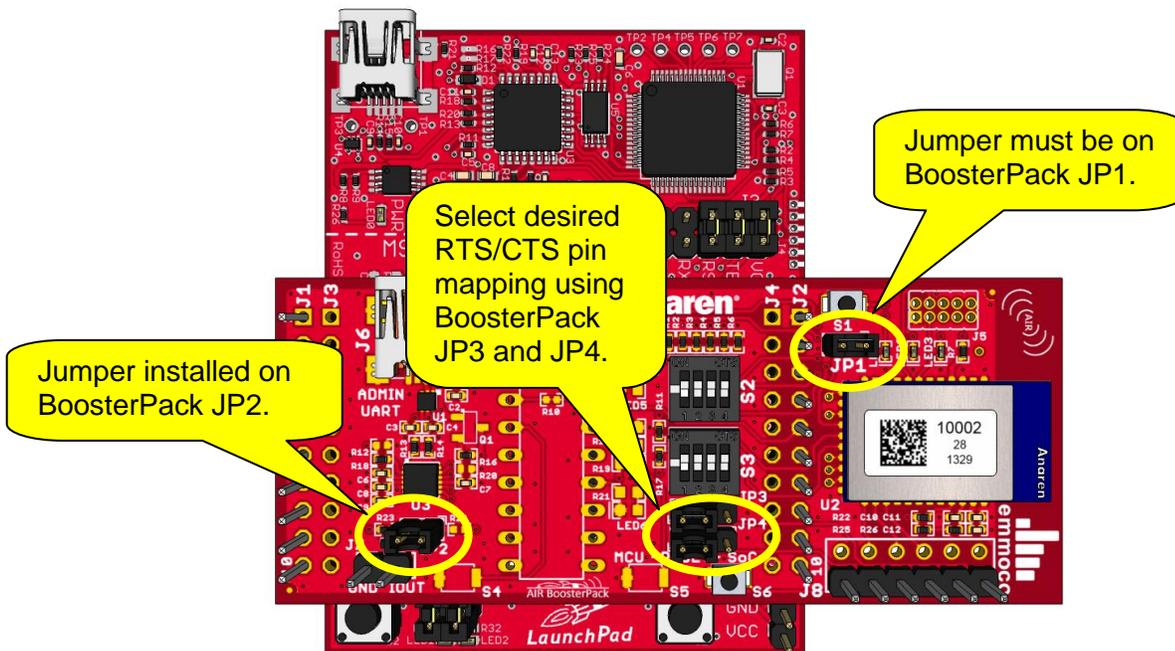

Figure 4 – AIR B-Smart BoosterPack Installed On MSP-EXP430G2 LaunchPad
- 1) Install the AIR B-Smart BoosterPack onto the LaunchPad board. Ensure the BoosterPack is oriented correctly. With the LaunchPad emulator section at the top, the BoosterPack radio module should overhang at the right. Figure 4 shows an example of a BoosterPack installed on a MSP-EXP430G2 LaunchPad, but the orientation is the same for all LaunchPads.